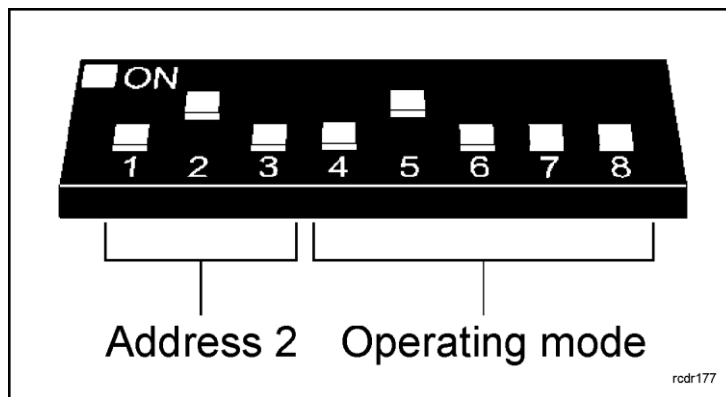

Fig. 3 INT-RS dip switch setting with exemplary address
- Select the operating mode for INT-RS converter according to fig. 3.
According to SATEL instructions, the address of INT-RS converter to be connected to the keypad bus in the INTEGRA 24 and INTEGRA 32 alarm control panels must be in range 0 - 3 (up to 4 keypads/other devices can be connected) and in case of INTEGRA 64, INTEGRA 128 and INTEGRA 128-WRL alarm control panels the address of INT-RS converter must be in range 0 – 7. Each keypad /device to be connected to the keypad bus must have its own individual address (addresses cannot be duplicated). Dip switches are used for address configuration. The integration with RACS 4 system requires selection of operating mode i.e. dip switch no. 5 must be on. The configuration of INT-RS converter with exemplary address is shown in fig. 3.